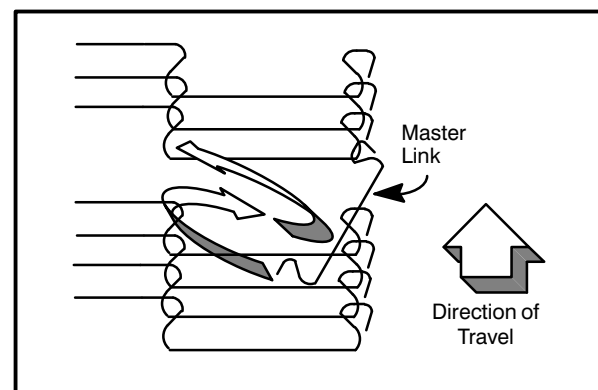

FIGURE 2
4. Install the inner and outer master links as shown in FIGURE 2.